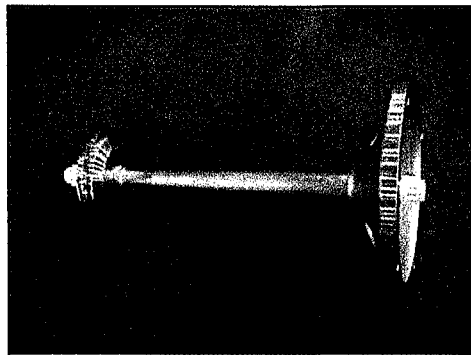
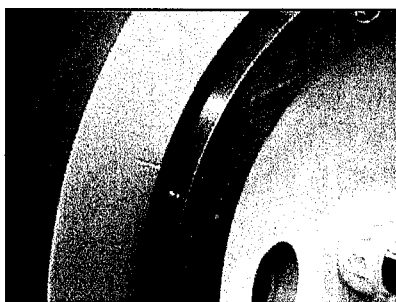

Figure 18 – Damper Piston Assembly
Figure 19 – Match-Mark Alignment of Damper Assembly and Aft Adapter
- j. Install damper piston assembly (Item 36) (*See Figure 18*) into aft adapter (Item 26) aligning match-marks. (*See Figure 19*) Install socket head cap screws (Item 37) and torque to 55-70 in-lbs.
- i. Install damper piston assembly (Item 36) (*See Figure 18*) into aft adapter, aligning match-marks. Install Socket head cap screws (Item 37) and torque to 55-70 in-lbs.